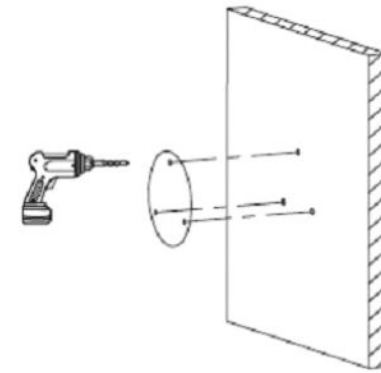

Figure 2-1
Step 1 Place the installation position map on the installation surface (wall or ceiling) then drill holes for the expansion bolts according to the installation position map. See Figure 2-1. Drill a hole for the cable exit if you are installing the cables through the installation surface.